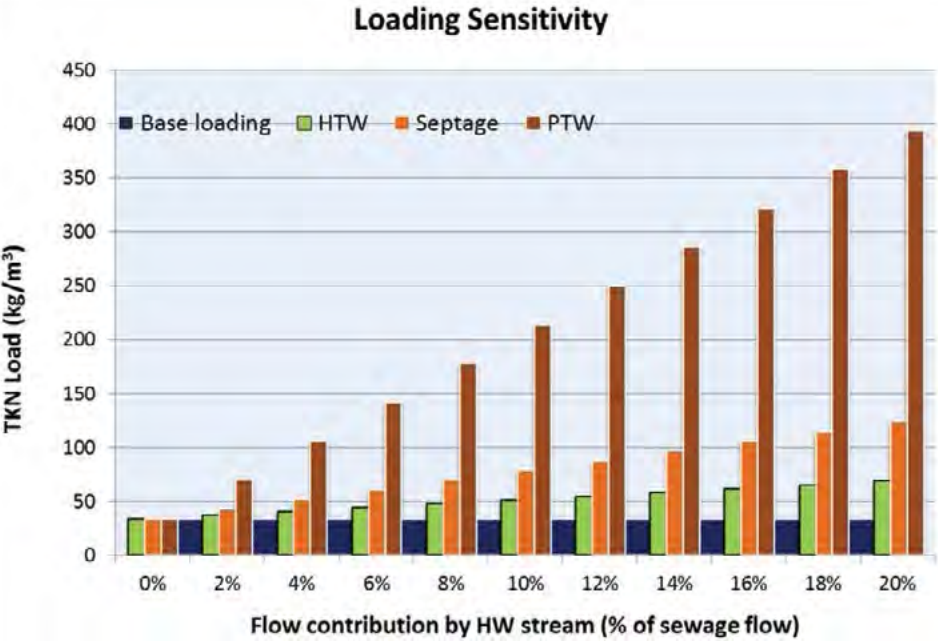

FIGURE 1 - INFLUENT LOADING SENSITIVITY TO HW CONTRIBUTIONS
Table 1 summarizes the typical characteristics of the three types of hauled wastes commonly encountered, including Holding Tank Waste (HTW), Portable Toilet Waste (PTW) and septage. Figure 1 shows the loading sensitivity of WWTP influents to varying volume contributions of different types of hauled wastes. As can be seen from this chart, while a 10% influent flow contribution by septage can double the TKN loading, the same contribution by PTW can increase it by six (6) times. In addition the septage and PTW are frequently toxic and can shock the biological treatment systems due to both loading as well as toxicity.